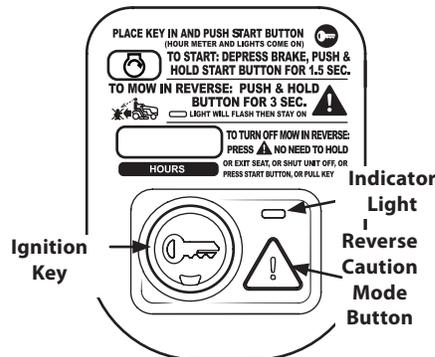

Figure 3-2
2. Press the REVERSE CAUTION MODE  button and hold for 3 seconds. The indicator light will flash for 3 seconds and will stay on when the REVERSE CAUTION MODE  is activated. See Figure 3-2.